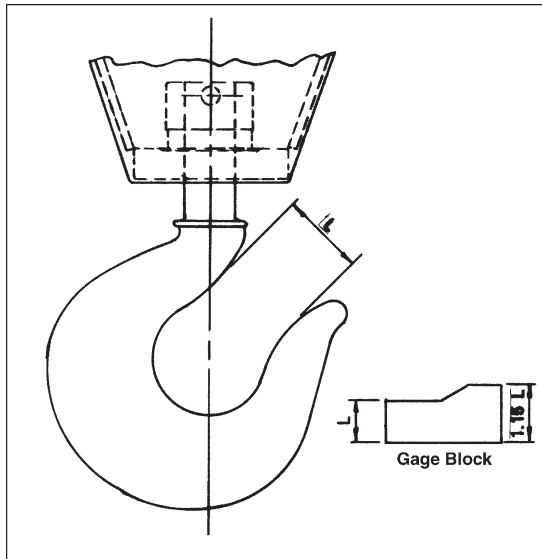

Figure 5-1. Method of measuring hook throat opening
- as. DO NOT operate hoist with hooks that have opened up. See Figure 5-1.
- f. Check throat opening of hook. (Refer to Figure 5-1.) It is recommended that upon receipt of the hoist a measurement be made and recorded of the hook throat opening. OSHA Standards require that the hook be replaced if the throat opening exceeds 15 percent of the original opening, or if the hook is twisted more than 10 degrees from the unbent plane. A gage block, properly identified to the hoist, similar to the one shown in Figure 5-1, is suggested to be made for each hook for use in these measurements. For hooks with certain kinds of safety latches it may be necessary to remove latch to measure hook opening.